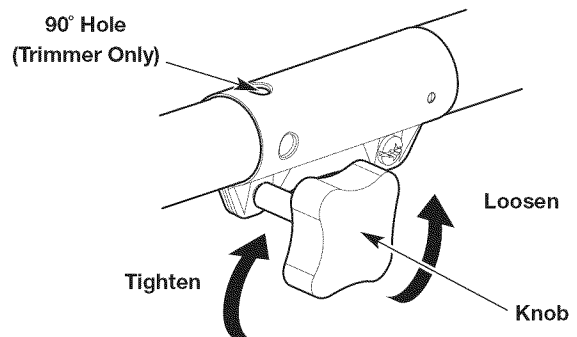

Fig. 4
3. Turn the knob counterclockwise to loosen the coupler (Fig. 4).
- Turn the knob clockwise to tighten the coupler (Fig. 4).
NOTE: For decorative trimming with a string trimmer attachment, lock the release button into the 90° hole (Fig. 4).
- Turn the knob counterclockwise to loosen the coupler (Fig. 4).